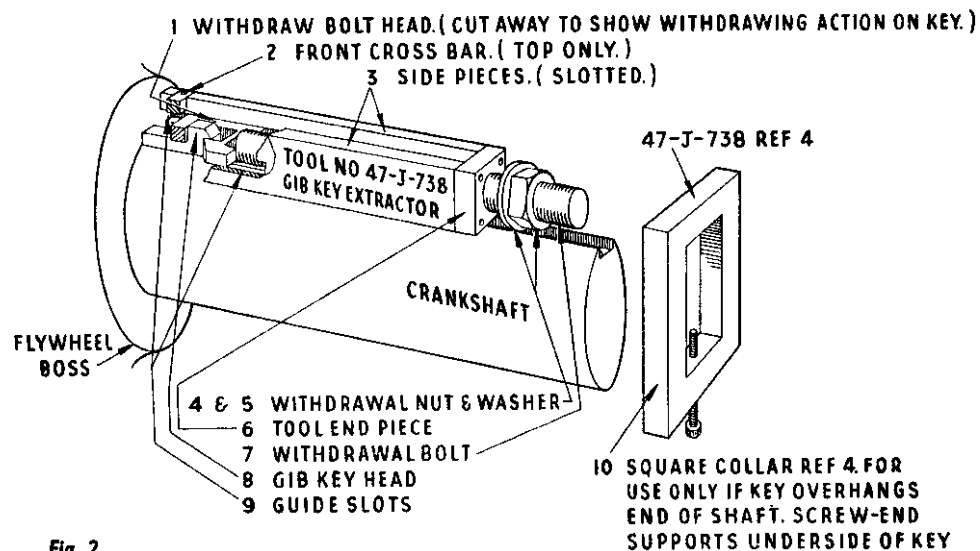

Fig. 2
- (b) When a number of engines are serviced at any one time we recommend the employment of Gib head key extractor tool No. 47-J-738 as illustrated in Fig. 2 which removes keys without effort or damage to key heads.
- i. If the key head is as shown in Fig. 2 remove item 10, the square collar, ref. 4, from the tool, and with the front cross bar (2) on top, put the tool on the shaft so that the square hole in the withdraw bolt head (1) fits on the key head (8). Tighten the nut (4) until the side pieces (3) press on the flywheel boss, after which the key can be withdrawn by turning the nut (4) with a tube spanner and a bar.
- ii. When the key head projects beyond the end of the crankshaft, the collar (10) should be put on the tool with screw underneath and operation carried out as in (i) but with the screw end under the head of the key to prevent it from bending when pressure is applied.